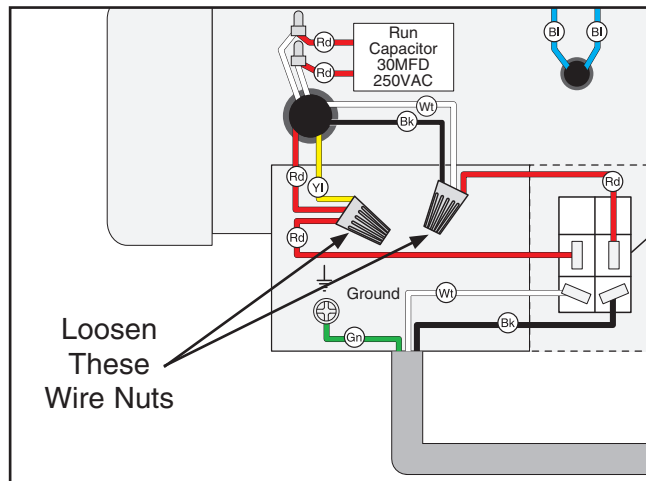

Figure 3. Location of wire nuts to be loosened on when converting voltage.
2. Open the motor junction box, then loosen the wire nuts indicated in **Figure 3**.